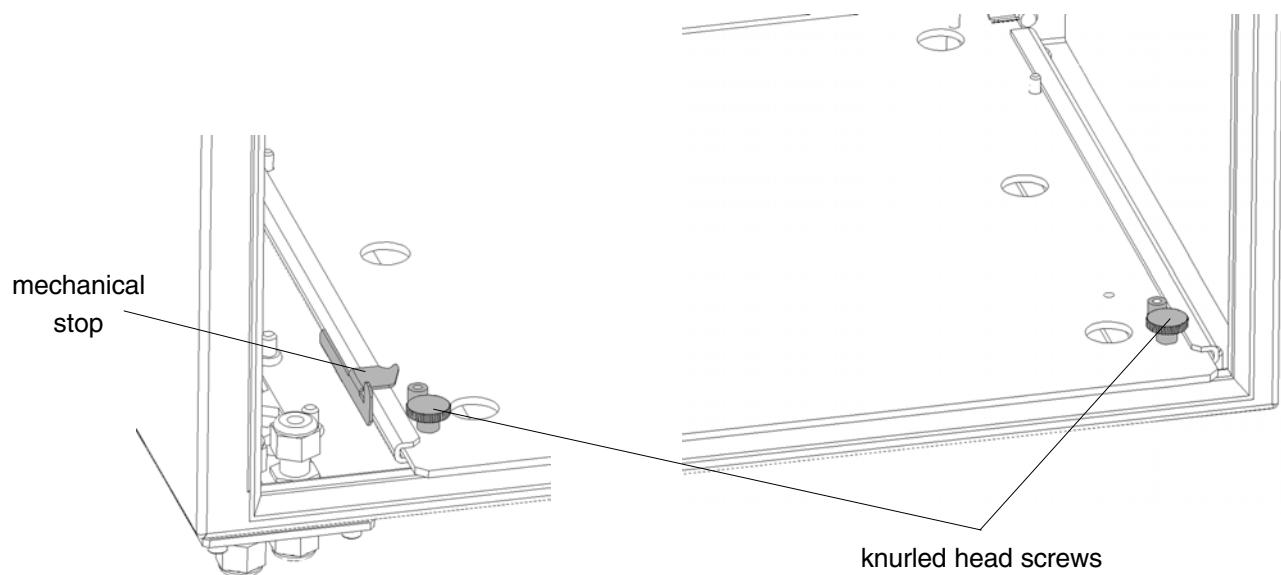

Fig. 15-6: MLT 2, photometer carriage slide
- Most components are located on a photometer slice carriage which can be pulled out to the front after removing 2 knurled head screws (fig. 15-6). Store the screws on bolts placed nearby the screws. Pulling out the sliding carriage in a first step is possible only to a mechanical stop (fig. 15-6). Push the stop aside to completely pull out the carriage slide of the housing.